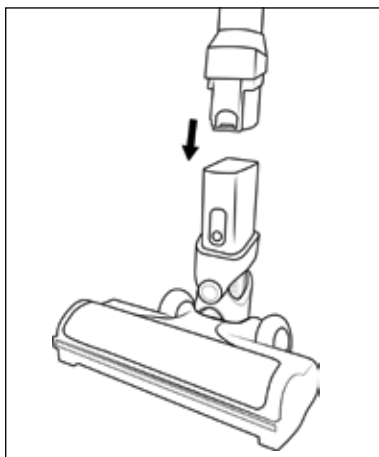

Fig. 2
- 2) Push the suction pipe ②③ into the floor brush ②① until it audibly clicks into place (see Fig. 2).